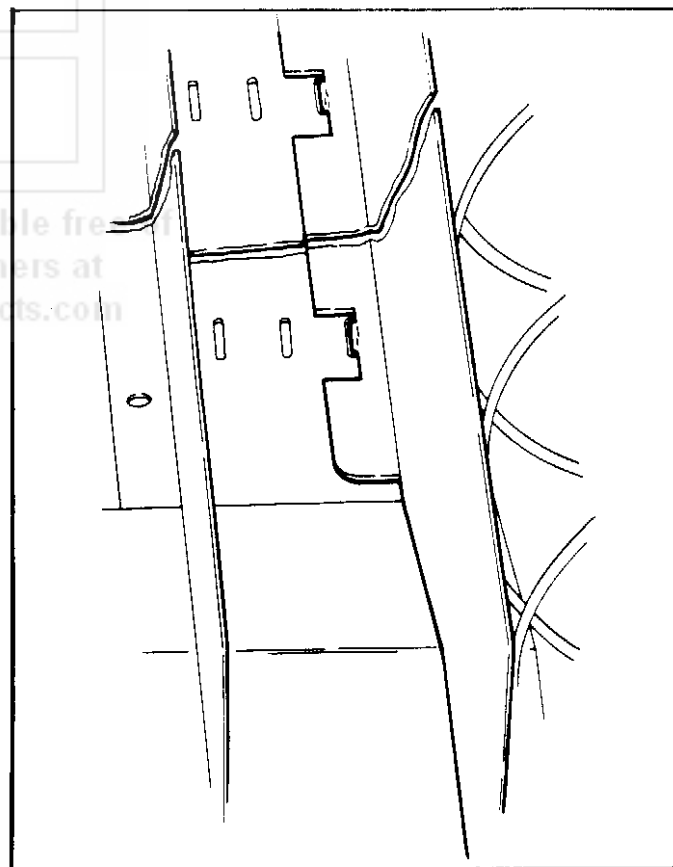

Figure 4. ALIGNMENT OF MOVEABLE PRODUCT SPACERS.
6. **PRODUCT SPACERS—5 SELECTION SHELF:** A product spacer is used to reduce the width of the product area and should be used on any 5-selection snack shelf where the product width is $4\frac{1}{2}$ " or less. Spacers should fit within $\frac{1}{8}$ " of the product but should not fit tight against the product. There are three positions in each snack space where these spacers can be placed. To install the spacer, align the lock ears (on the lower edge of the spacer) with one of the three sets of slots (one front and one rear). (See Figure 4). Push the spacer to the rear to allow the ears to enter the slots, then allow the spacer to move forward. Be sure the ears are in the same set of slots, front and rear. (See Figure 4). Continue loading all spirals adjust with spacers where needed in the top shelf. Return the top shelf to the vend position and following this procedure load the remainder of the large spiral shelves. The shelf divider separating the right (lock side) column from the next column is movable to allow vending of products wider than $5\frac{1}{2}$ " in the second column. If this is used the right column must be used to vend a narrower product.